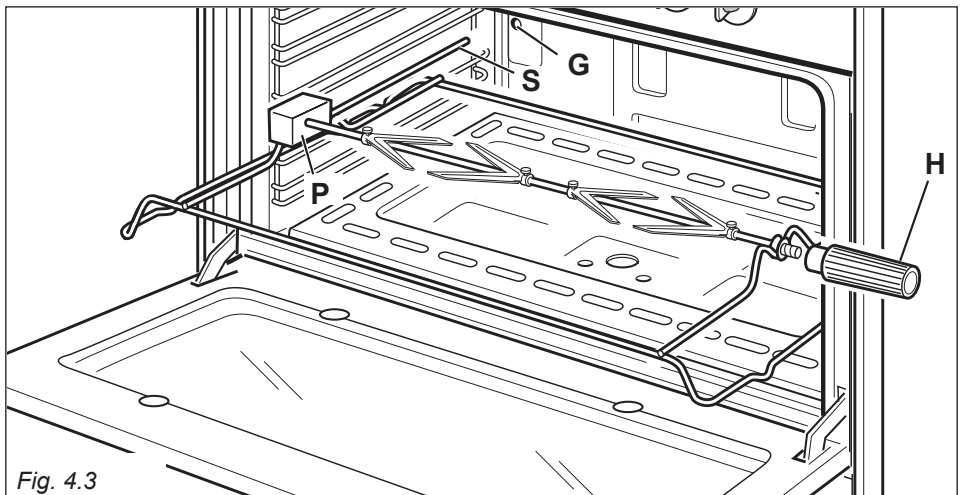

Fig. 4.3
- Insert the rod into the side gear opening “P” (fig. 4.3)